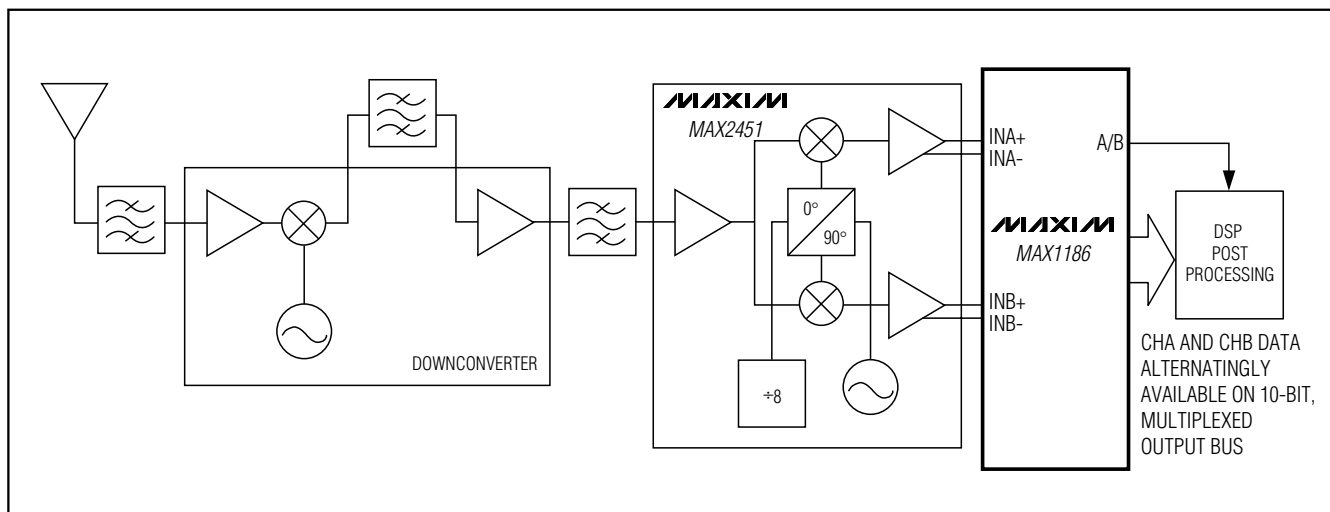

Figure 8. Typical QAM Application, Using the MAX1186
The most frequently used modulation technique for digital communications applications is probably the Quadrature Amplitude Modulation (QAM). Typically found in spread-spectrum based systems, a QAM signal represents a carrier frequency modulated in both amplitude and phase. At the transmitter, modulating the baseband signal with quadrature outputs, a local oscillator followed by subsequent up-conversion can generate the QAM signal. The result is an in-phase (I) and a quadrature (Q) carrier component, where the Q component is 90 degree phase-shifted with respect to the in-phase component. At the receiver, the QAM signal is divided down into its I and Q components, essentially representing the modulation process reversed. Figure 8 displays the demodulation process performed in the analog domain, using the dual matched 3V, 10-bit ADC MAX1186, and the MAX2451 quadrature demodulator to recover and digitize the I and Q baseband signals. Before being digitized by the MAX1186, the mixed-down signal components may be filtered by matched analog filters, such as Nyquist or pulse-shaping filters. These remove any unwanted images from the mixing process, thereby enhancing the overall signal-to-noise (SNR) performance and minimizing intersymbol interference.